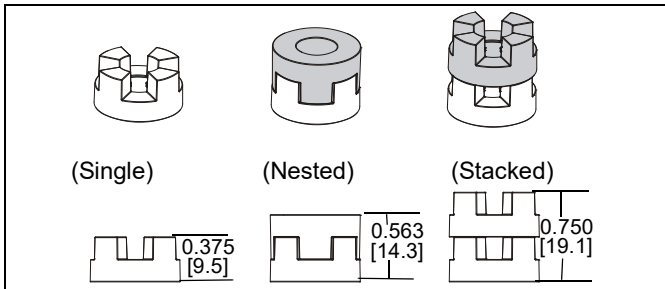

Figure 17
**NOTE:** The nesting spacers (AJ) may be used separately, or put two together in different configurations to create different size spacers. (See Figure 17)